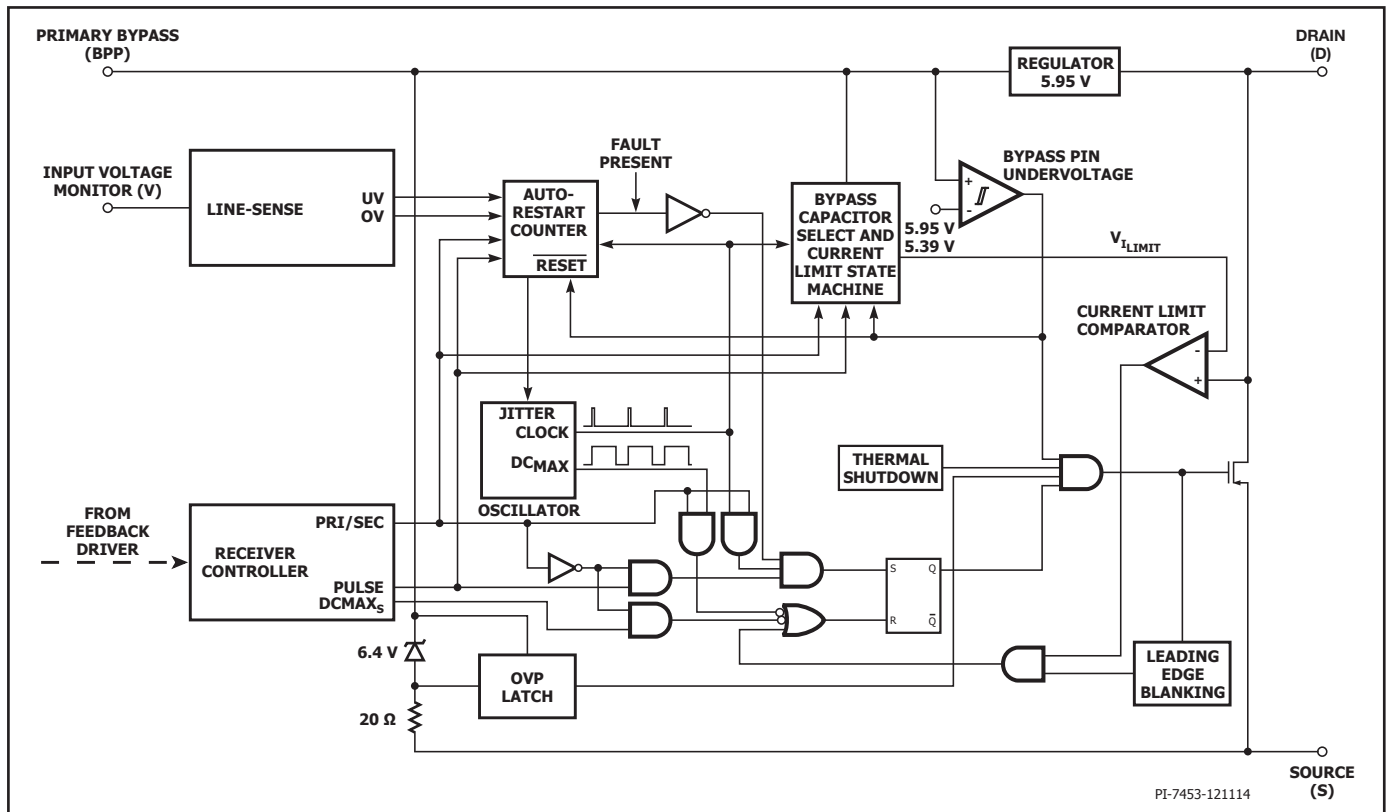

Figure 3. Primary-Side Controller Block Diagram.
The InnoSwitch-EP combines a high-voltage power MOSFET switch, along with both primary-side and secondary-side controllers in one device. It has a novel inductive coupling feedback scheme using the package leadframe and bond wires to provide a reliable and low-cost means to provide accurate direct sensing of the output voltage and output current on the secondary to communicate information to the primary IC. Unlike conventional PWM (pulse width modulated) controllers, it uses a simple ON/OFF control to regulate the output voltage and current. The primary controller consists of an oscillator, a receiver circuit magnetically coupled to the secondary controller, current limit state machine, 5.95 V regulator on the PRIMARY BYPASS pin, overvoltage circuit, current limit selection circuitry, over temperature protection, leading edge blanking and a 725 V / 900 V power MOSFET. The InnoSwitch-EP secondary controller consists of a transmitter circuit that is magnetically coupled to the primary receiver, constant voltage (CV) and constant current (CC) control circuitry, a 4.4 V regulator on the SECONDARY BYPASS pin, synchronous rectifier MOSFET driver, frequency jitter oscillator and a host of integrated protection features. Figures 3 and 4 show the functional block diagrams of the primary and secondary controllers with the most important features.